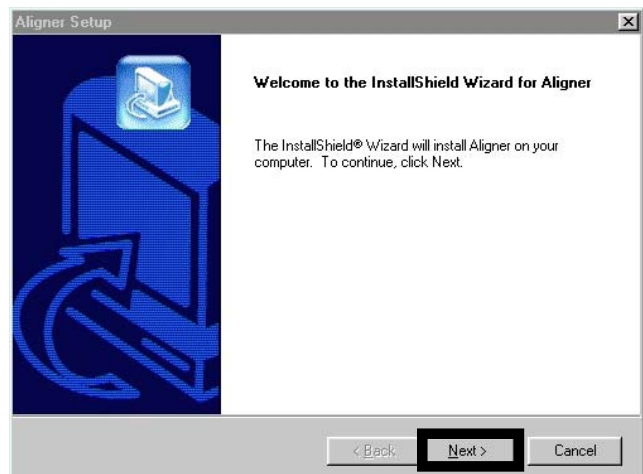

Figure 3-3
6. After rebooting, the alignment program will run and begin to load the alignment software. The install Wizard is the first screen to appear. Press <NEXT> to begin the installation. (Figure 3-3)